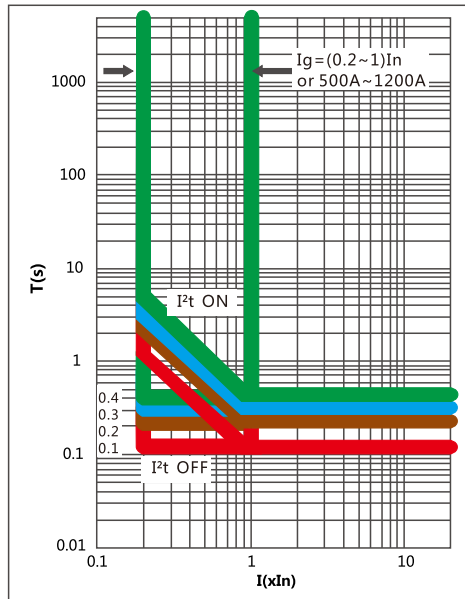

Figure 2 Asymmetric ground protection characteristic curve
4.2.5.1 Ground protection has the definite time protection characteristics (M type and A type), and definite time + inverse time protection characteristics (P and H types). See Figure 2.